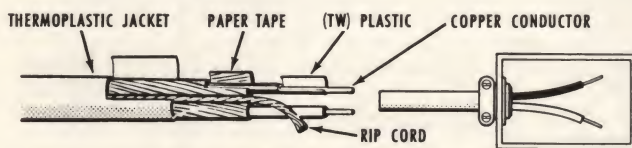

FIG. 4—NON-METALLIC SHEATHED CABLE
**NON-METALLIC SHEATHED CABLE.** This Type NM cable, (generally called "Romex"), is now covered with a thermoplastic jacket, with two or three insulated wires, each of which is covered with thermoplastic insulation and wrapped with spiral paper tape. This cable has a long life and is resistant to fire, moisture and acid vapors (Fig. 4). It is recommended for indoor use in homes, garages, barns and other outbuildings for both old and new work. **IMPORTANT:** Do not use out-of-doors, underground or in masonry. Use it inside, for both exposed and concealed work.